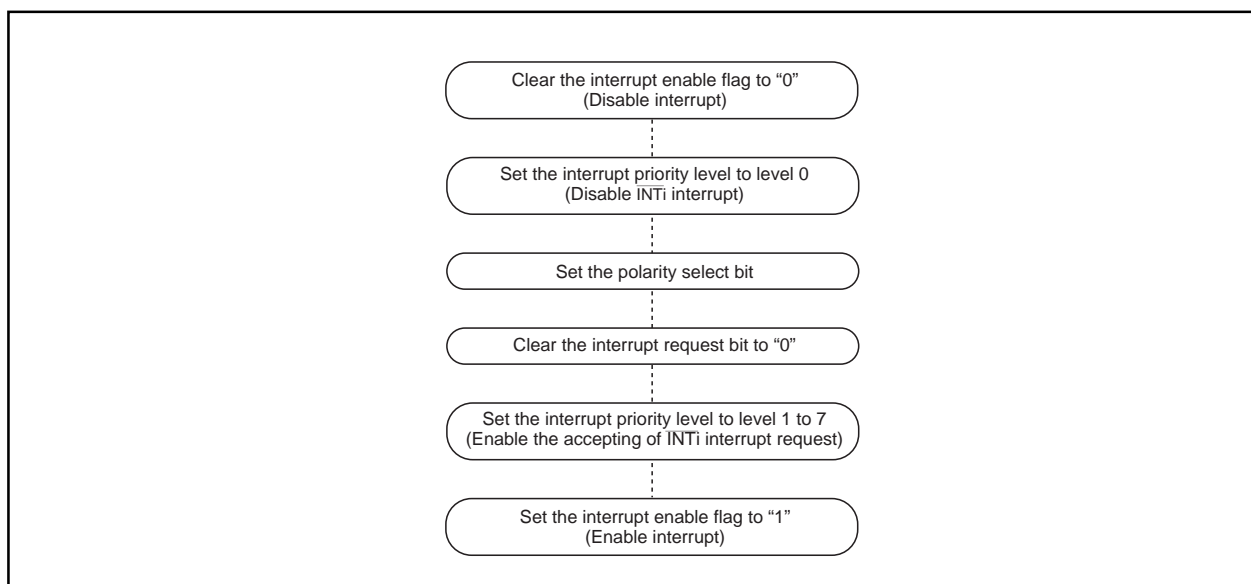

Figure 31. Switching condition of $\overline{\text{INT}}$ interrupt request
(2) Setting the stack pointer
(3) External interrupt
- When the polarity of the $\overline{\text{INT}}_0$ through $\overline{\text{INT}}_5$ pins is changed, the interrupt request bit is sometimes set to "1". After changing the polarity, set the interrupt request bit to "0". Figure 31 shows the procedure for changing the $\overline{\text{INT}}$ interrupt generate factor.